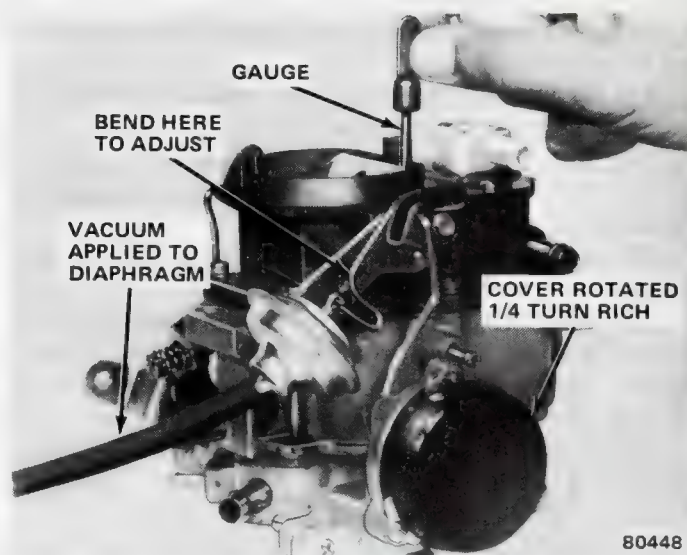

Fig. 1J-84 Initial Choke Valve Clearance
- (1) Loosen choke housing cover and turn 1/4 turn rich. Tighten one retaining screw.
- (2) Open throttle slightly and place fast idle screw on second step of cam.
- (3) Measure distance between choke plate and air horn wall (fig. 1J-85). Refer to Specifications for correct dimension.